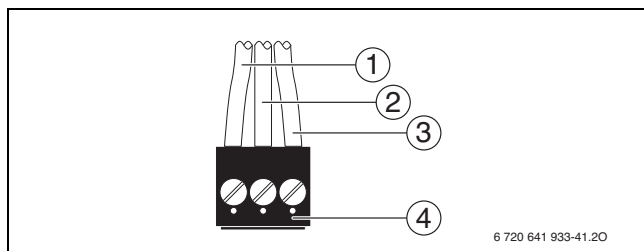

Fig. 54 Attach plug (external pump)
- ▶ Connect cable to **the black plug** according to Fig. 54.